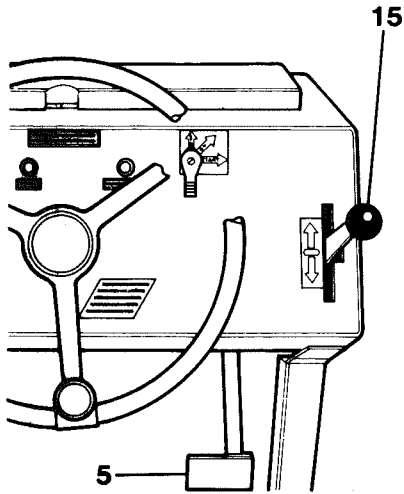
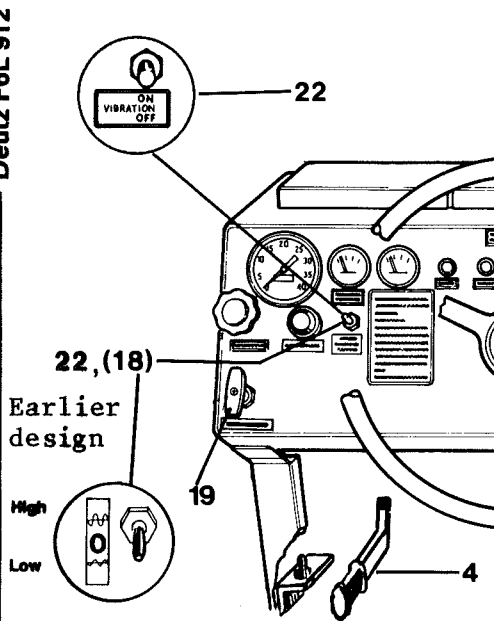

Fig. 19
Fig. 20
- 2 Move the forward/reverse lever (15), fig. 19, to the "NEUTRAL" position.
- 3 Apply the handbrake (2).
- 5 To stop the engine, pull out the stop control (19), fig. 20.